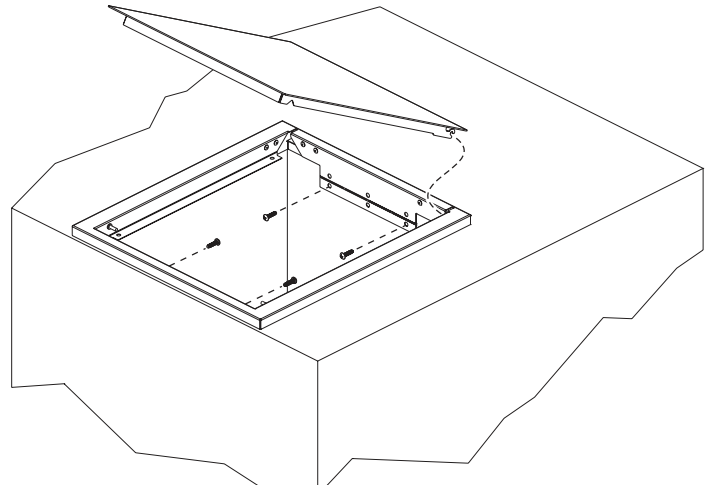

Figure 3
3. Remove lid and place the DPA152 surround into the enclosure and check for proper hole alignment. Secure the DPA 152 surround to the enclosure with four #8x3/4" screws (not supplied). See Figure 3.